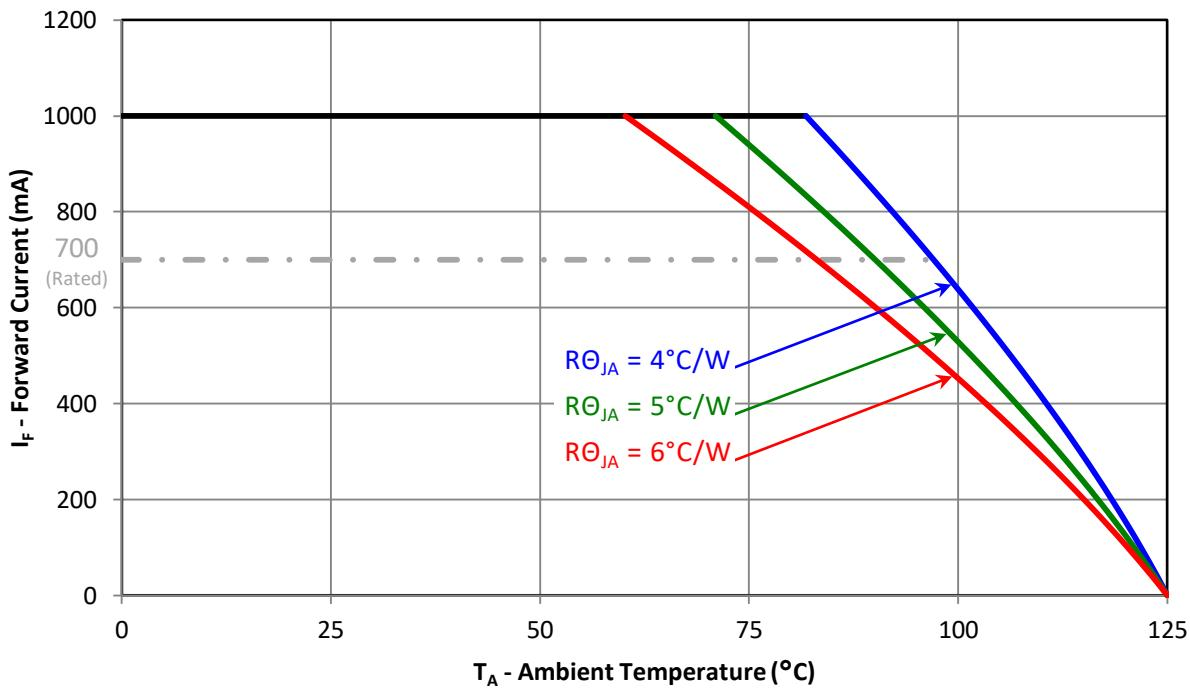

Figure 11: Maximum forward current vs. ambient temperature based on $T_{J(MAX)} = 125\text{ }^{\circ}\text{C}$.
1. Maximum DC forward current (per die) is determined by the overall thermal resistance and ambient temperature. Follow the curves in Figure 11 for current derating.
Notes for Figure 11: